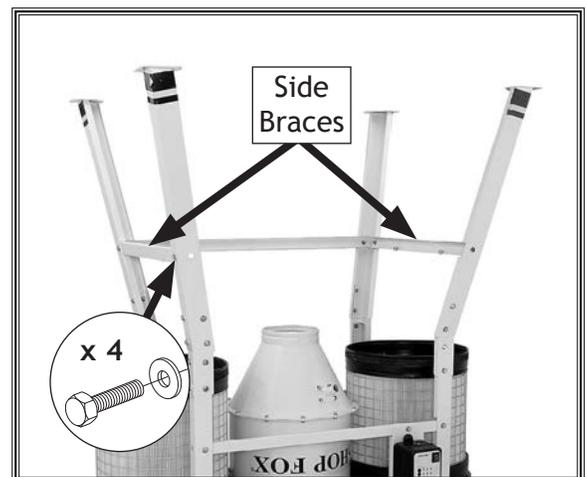

Figure 18. Side stand braces attached.
- Connect the two side stand braces to the lower stand legs with (4) $\frac{3}{8}$ "-16 x $\frac{3}{4}$ " hex bolts and (4) $\frac{3}{8}$ " flat washers, as shown in Figure 18.